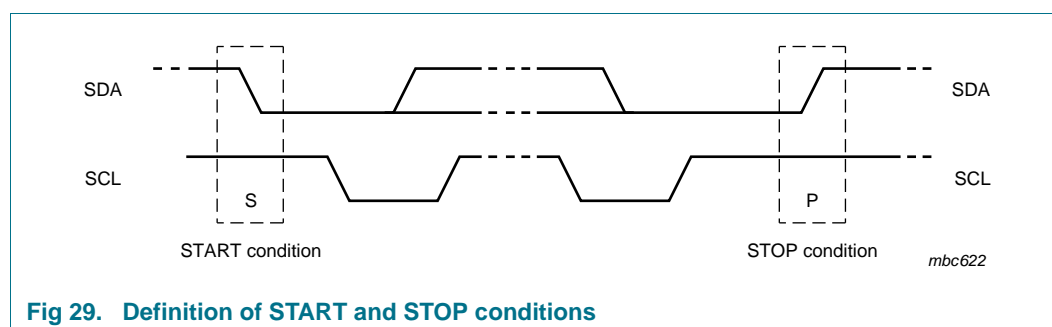

Fig 29. Definition of START and STOP conditions
Both data and clock lines remain HIGH when the bus is not busy. A HIGH-to-LOW transition of the data line, while the clock is HIGH, is defined as the START condition (S). A LOW-to-HIGH transition of the data line, while the clock is HIGH, is defined as the STOP condition (P) (see Figure 29).